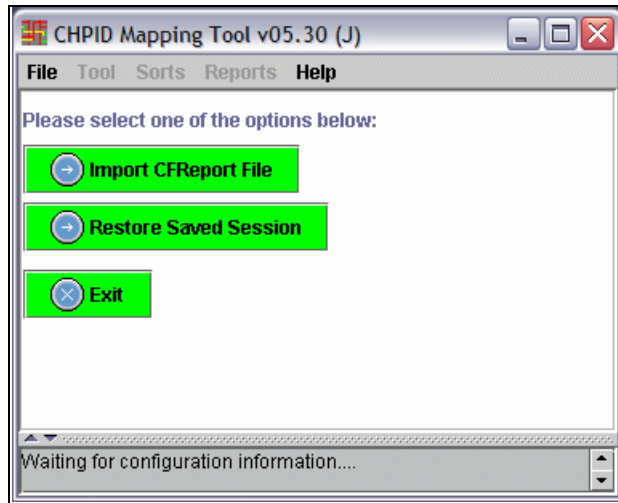

Figure 3-50 CMT - Import CFReport Order file
3. Click **File** → **Import CFReport file** (Figure 3-50).